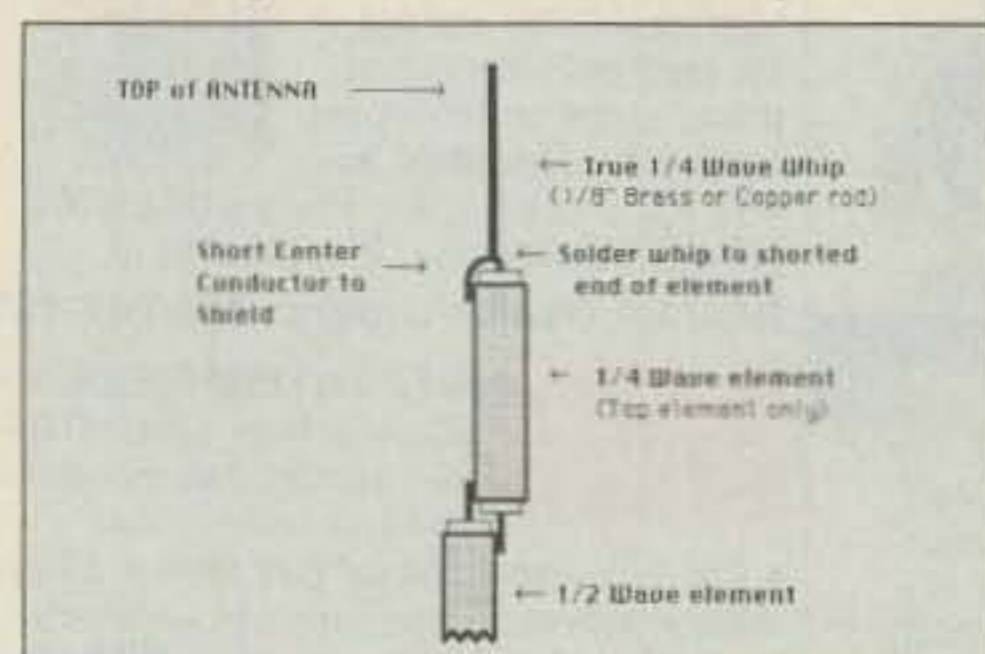

Figure 3. Top section of collinear.
Step 7. The last element is $\frac{1}{4}$ -wave long, exactly half the measured length of the $\frac{1}{2}$ -wave element. Short out the top end of this section by bending over the center conductor and soldering it to the brass tube. The $\frac{1}{4}$ -wave whip is attached at this point. The whip is a true $\frac{1}{4}$ -wave (no velocity factor correction) and can be constructed out of any diameter brass rod. See Figure 3.